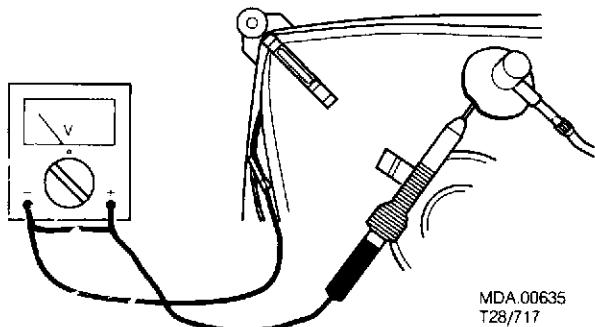

Fig. 1
2. In order to preclude damage to ICs and transistors flashover of the EHT should be avoided. To prevent damage to the picture tube, the method indicated in fig. 1 should be followed in case of discharge. Make use of a high-tension probe and a universal meter (mode DC-V). Discharge until the meter reads 0 Volts (after approx 30 s).